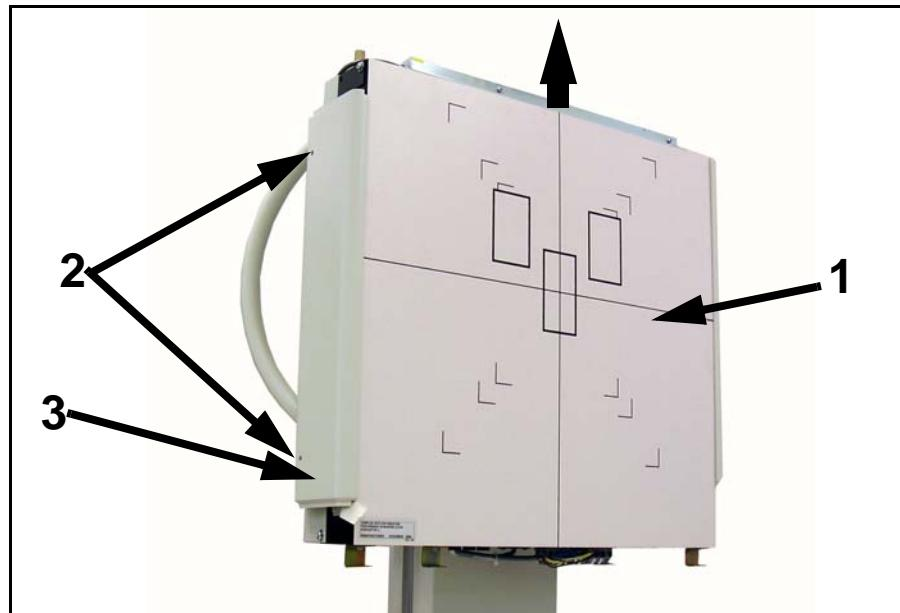

Figure 6-12. Side Panel & Front Panel
- 3 Slide the front panel (1 in Figure 6-12) straight up and off wallstand.
- 4 Unscrew two side cover screws (2) and remove side cover (3).